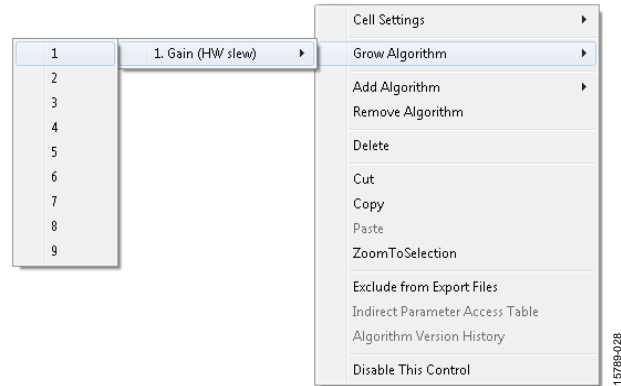

Figure 26. Growing the Volume Control to Two Channels
- By default, the volume control block has one input and one output. In other words, it is a single channel. To add another channel, right-click in the empty white space of the **Single Volume** block, and then from the dropdown menu that appears, select **Grow Algorithm** > **1. Gain (HW Slew)** > **1** (see Figure 26).